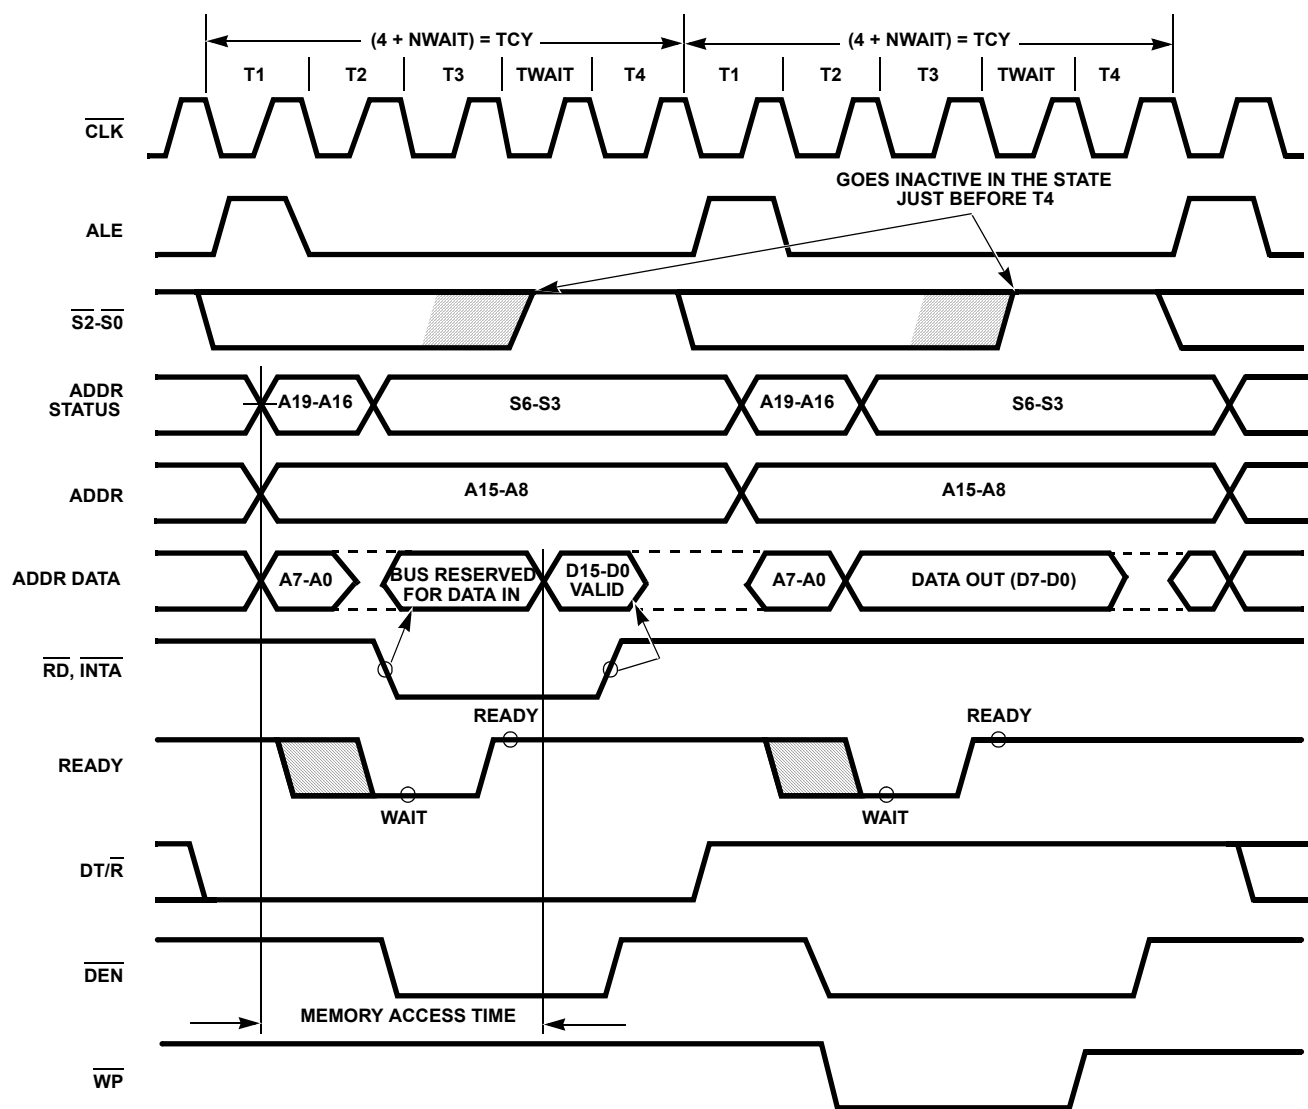

FIGURE 5. BASIC SYSTEM TIMING
Each processor bus cycle consists of at least four CLK cycles. These are referred to as T1, T2, T3, and T4, as shown in Figure 5 on page 12. The address is emitted from the processor during T1 and data transfer occurs on the bus during T3 and T4. T2 is used primarily for changing the direction of the bus during read operations. In the event that a “Not Ready” indication is given by the addressed device, “wait” states (TW) are inserted between T3 and T4. Each inserted “wait” state is of the same duration as a
The read cycle begins in T1 with the assertion of the address latch enable (ALE) signal (see Figure 5 on page 12). The trailing (low-going) edge of this signal is used to latch the address information, which is valid on the address data bus (AD0-AD7) at this time, into the 82C82/82C83 latch. Address lines A8 through A15 do not need to be latched because they remain valid throughout the bus cycle. From T1 to T4 the $\text{IO}/\overline{\text{M}}$ signal indicates a memory or I/O operation. At T2 the address is removed from the address data bus and the bus is held at the last valid logic state by internal bus-hold devices. The read control signal is also asserted at T2. The read ($\overline{\text{RD}}$) signal causes the addressed device to enable its data bus drivers to the local bus. Some time later, valid data will be available on the bus and the addressed device will drive the READY line HIGH. When the processor returns the read signal to a HIGH level, the addressed device will again three-state its bus drivers. If a transceiver (82C86/82C87) is required to buffer the local bus, signals $\text{DT}/\overline{\text{R}}$ and $\overline{\text{DEN}}$ are provided by the 80C88.